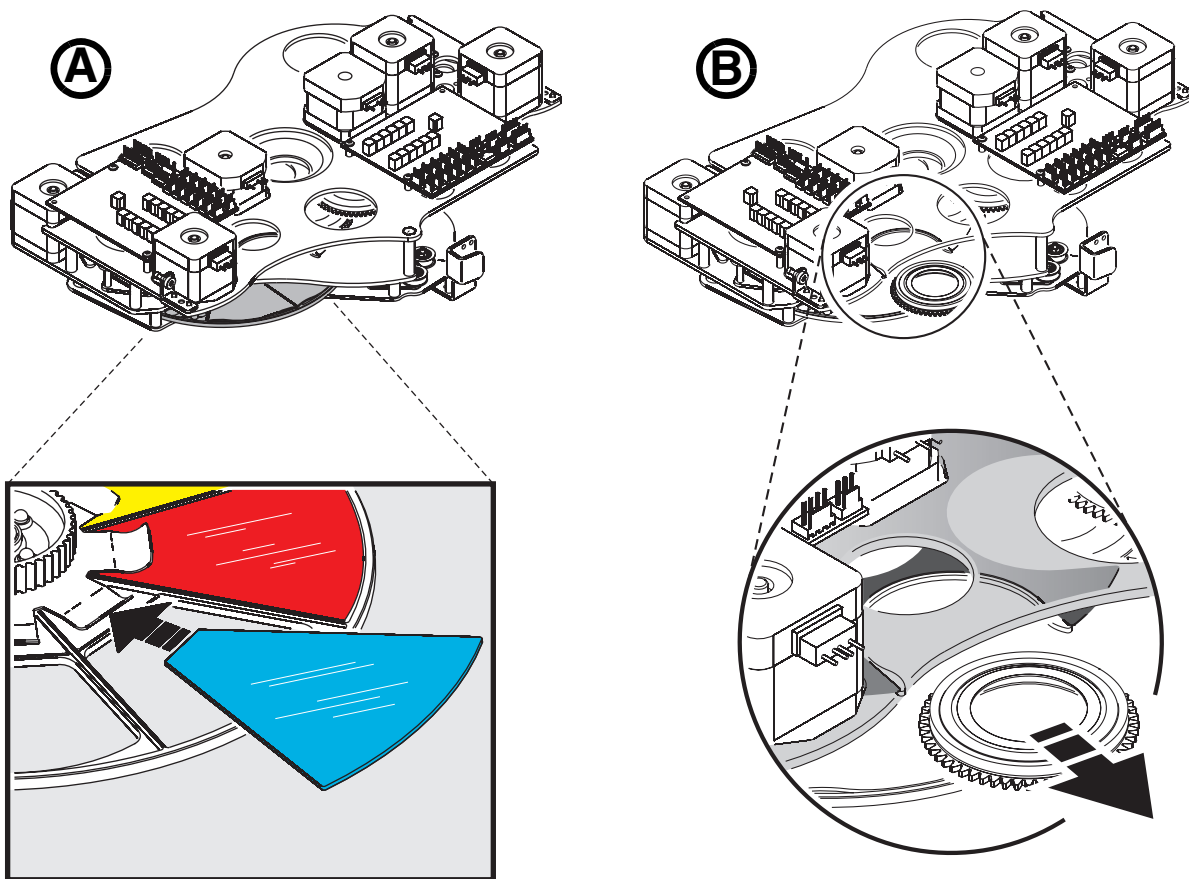

Figure 21: Color filter and gobo replacement
4. See **A** in Figure 21 on page 42. Rotate the color wheel until the filter you want to change is accessible. Lift the filter away from the color wheel slightly to release it, then grasp it by the edges and remove. If your fingers are too large, protect the glass with a piece of paper that has been folded several times and grasp the filter with needle nose pliers.
2. See **B** in Figure 21 on page 42. Rotate the relevant gobo wheel until the gobo you want to replace is accessible.
8. Check that the goboholder is the right way up (see Figure 21), then work the rim of the gobo holder under both clips and snap the gobo holder back into position on the gobo wheel. If necessary, a small screwdriver or similar tool may be used to pry the clips away from the wheel.